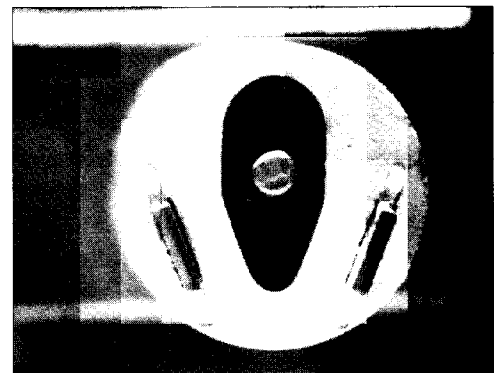

Figure 46
4. Attach new tube assembly, positioning it so cone support slots point down (see Figure 46).